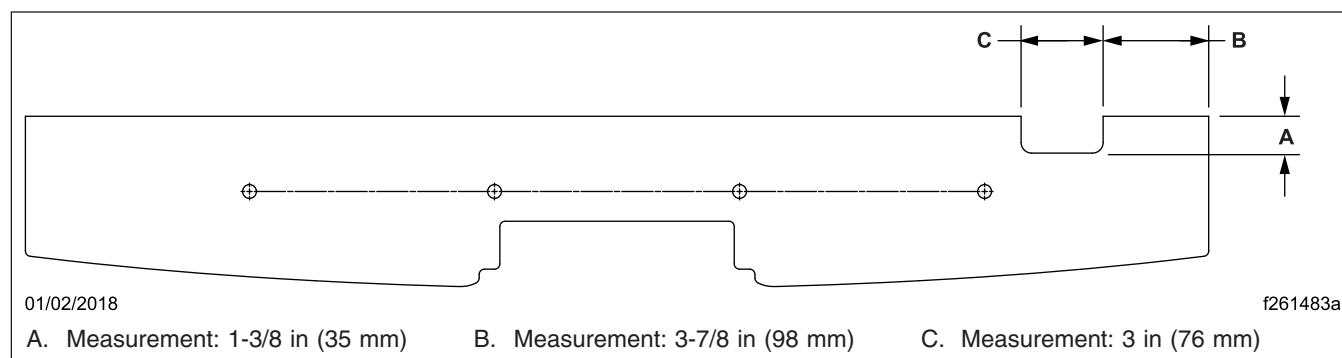

Fig. 5, Lower Air Baffle Cutout
13. Mark and cut a pass-through on the lower air baffle. See Fig. 5 for locating the cutout.